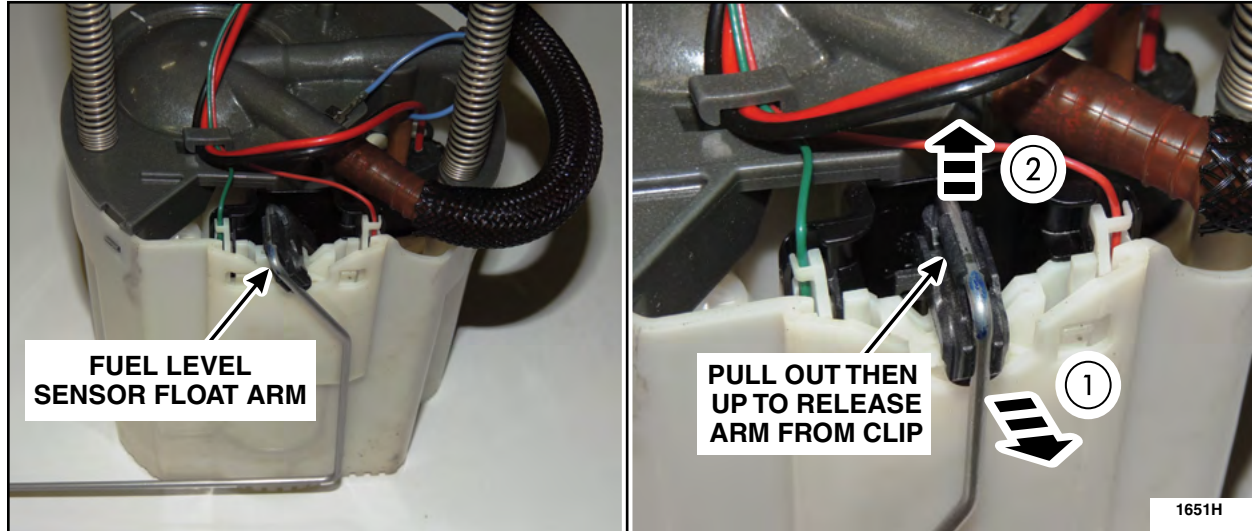

FIGURE 1
2. Disconnect the float arm from the fuel level sensor. See Figure 1.
12. Install the float arm onto the fuel level sensor. See Figure 1.